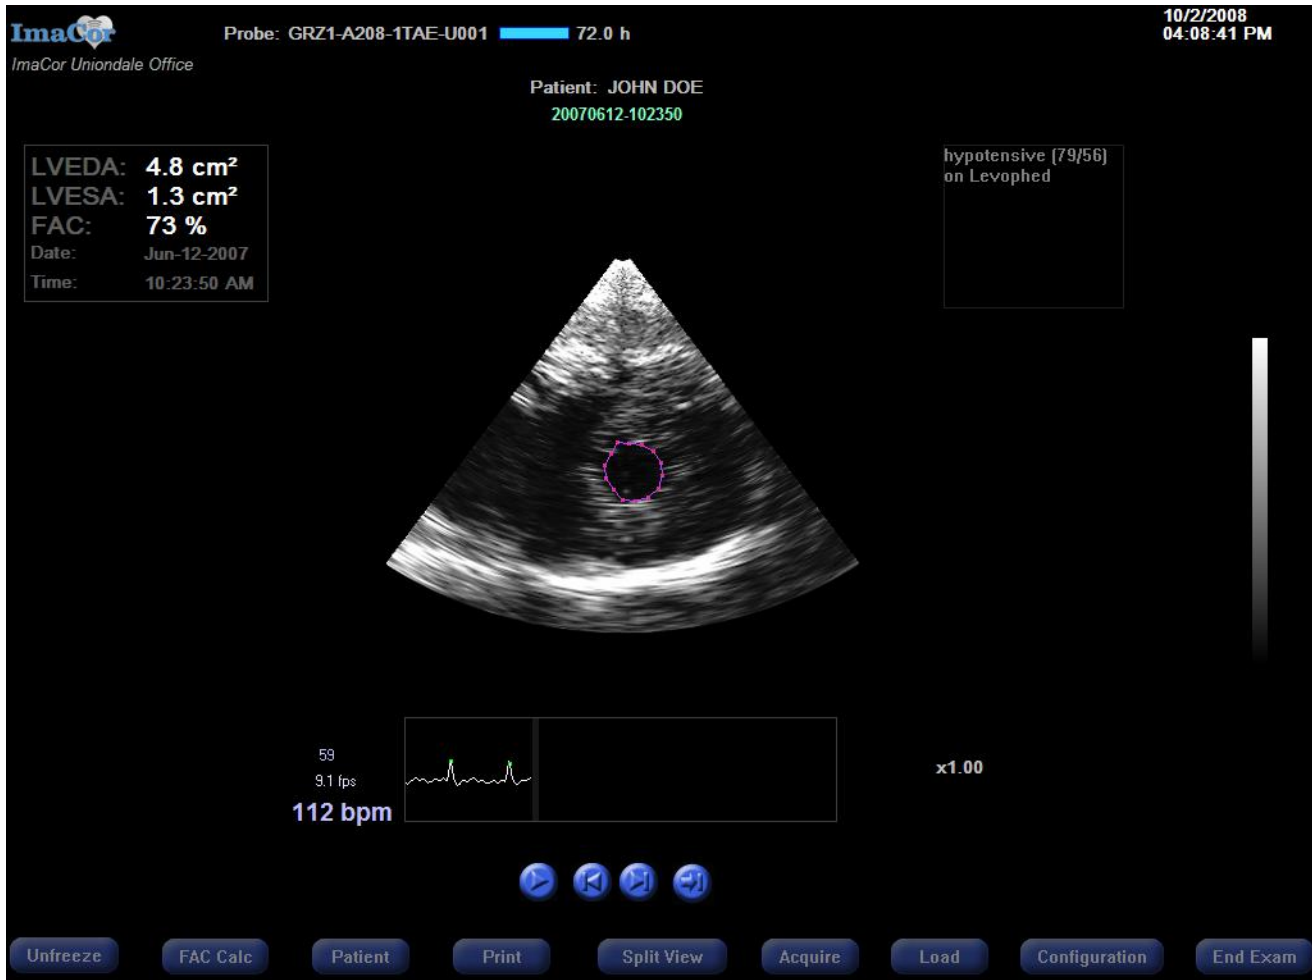

Fig. 64 Completed FAC calculation
- 6 When you have finished, click the Done button. The LVEDA, LVESA, and FAC values are automatically calculated and displayed, as shown in Figure 64.